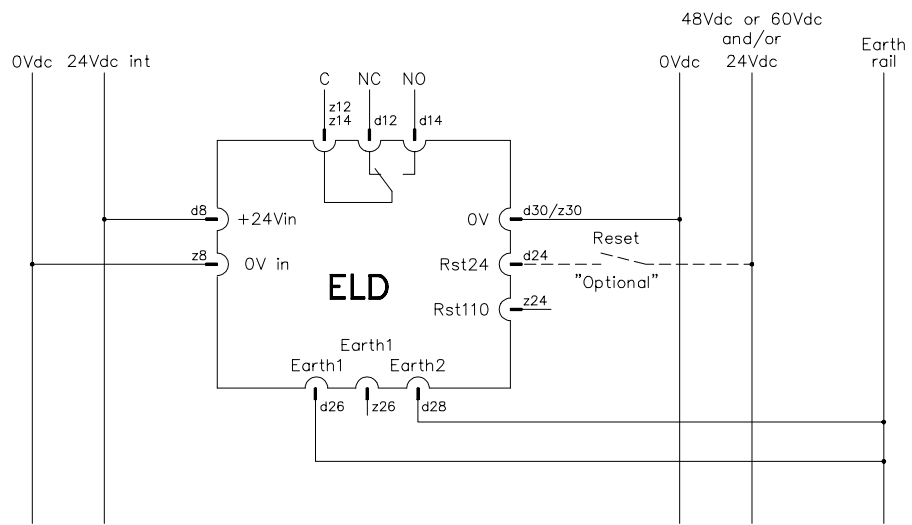

Figure 3 24 Vdc with 48 Vdc and/or 60 Vdc monitoring
- 24 Vdc, 48 Vdc and/or 60 Vdc systems (see Figure 3), or